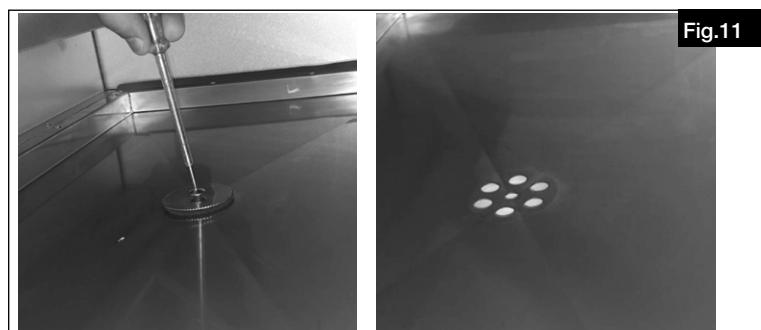

Fig.11
5. Remove the condensate cap with a screwdriver (see Fig.11).